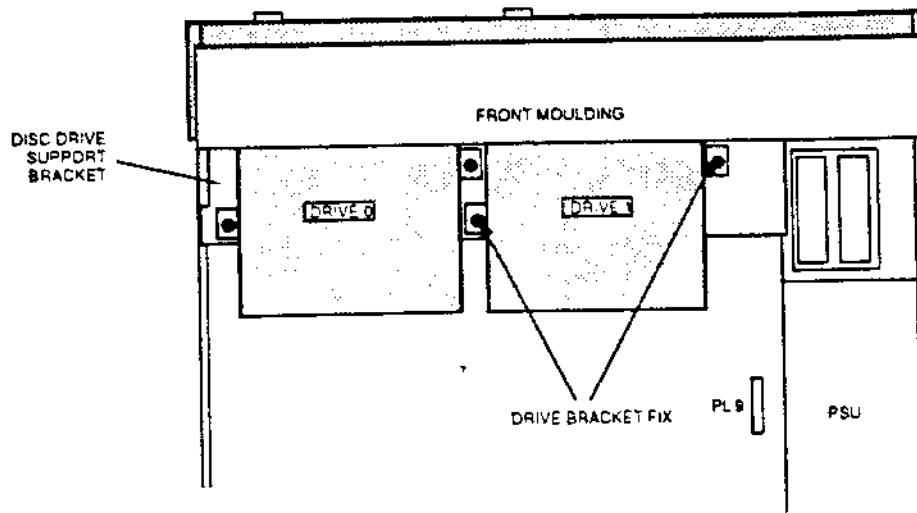

Figure 2
4. With reference to figure 2, unplug the disc drive data ribbon cable from SK 11 on the main PCB and the power cable connector from the rear of the disc drive. Locate and remove the two screws securing the disc drive mounting bracket to the saddle bracket and carefully withdraw the disc drive assembly from the main unit.